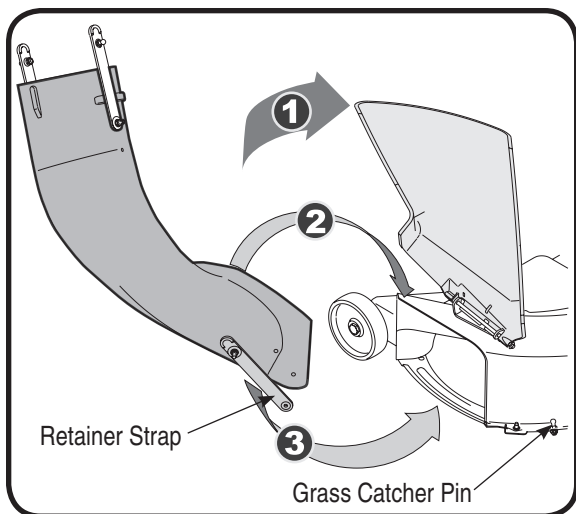

Figure 25
4. Raise the chute deflector on the deck and hold it while you position the discharge chute over the chute opening. See Figure 25.
7. Lock the discharge chute in position by hooking the retainer strap over the grass catcher pin on the deck. See Figure 25.